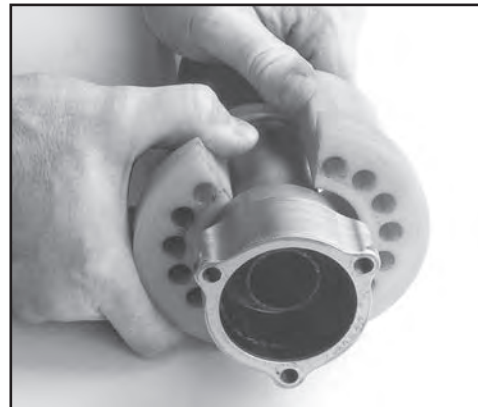

FIG. 69: PLACING ELASTIC BLOCK ON CONTROL TUBE
23. Open the elastic block and place onto the control tube (see Fig. 69).